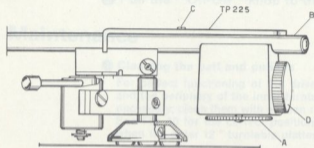

Fig. 8. Rear part of the pick-up arm.
- Place the counterweight underneath the pick-up arm extension B, the sliding tube entering the corresponding hole on the counterweight (see Fig. 8).
- Place the stylus force calibration plate (part No. TP-225) on top of the pick-up arm extension B according to Fig. 8 and 9, with pin C on the arm extension in the slot of the calibration plate. **Position the calibration plate with pin C in the indentation of the scale corresponding to the stylus force recommended by the cartridge manufacturer. Each indentation corresponds to $\frac{1}{4}$ gram.**